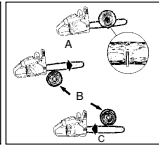

Fig. 2B
**STOOT- (KLEMTERUGSTOOT) EN TREKREACTIES (fig. 2B)**